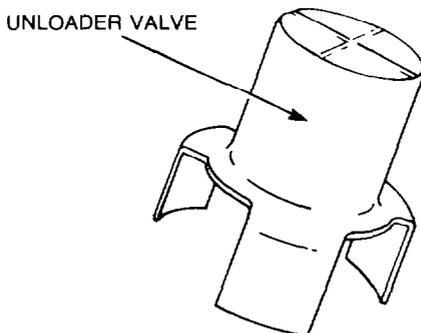

Figure 240 — Unloader Valve
- h. Inspect the unloader valve for scoring, pitting or excessive wear and replace as necessary (see Fig. 240).